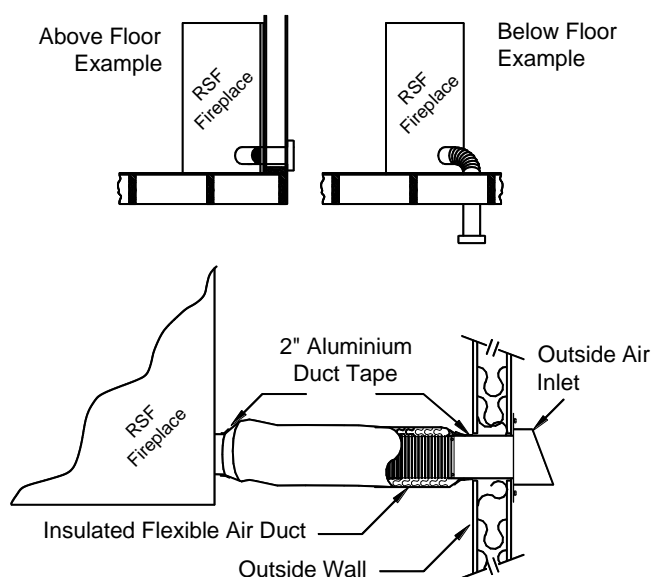

Figure 7 Outside Air Connection and Installation Example
1. Find a convenient location for the insulated flexible duct and outside air inlet. The outside air inlet can be above or below floor level (see Figure 7).